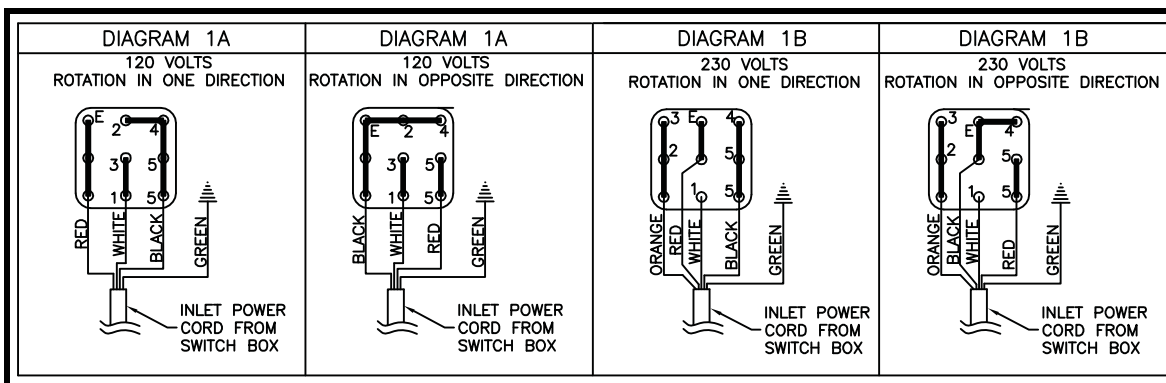

Figure 6. Single Phase Wiring Diagrams
3. Wire vibrator according to appropriate wiring diagram inside terminal box or see Figure 6 or 7. Use closed loop wire connectors only.